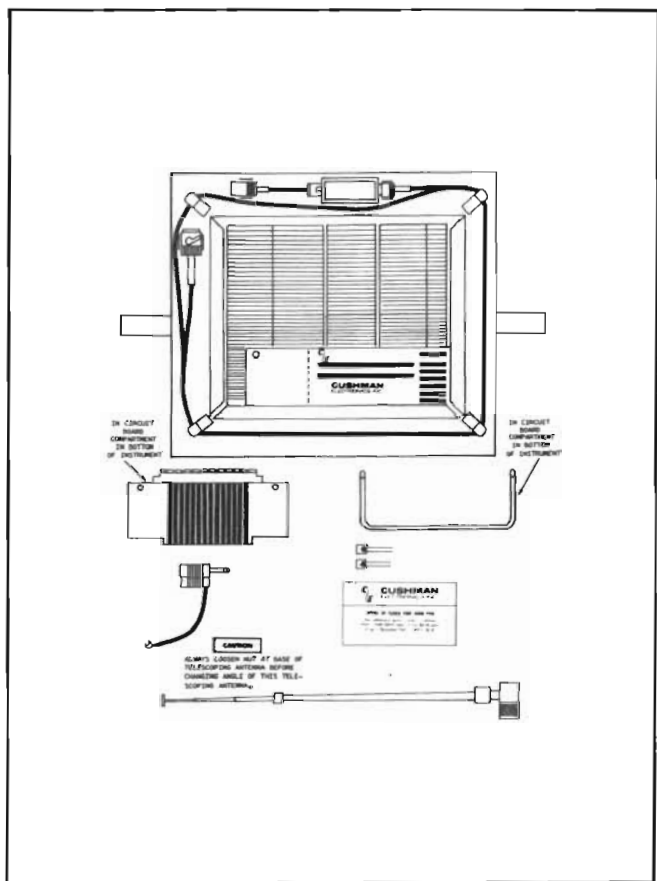

Figure 2-1. Auxiliary Items Furnished With CE-5
2.01 When unpacking the Model CE-5 Communications Monitor inspect the packing box and the instrument for signs of possible shipping damage and see if the auxiliary items, listed in Table 2-1 and shown in Figure 2-1, are present. Verify satisfactory performance as outlined in the Operating Instructions (Section 3). If the instrument is damaged or fails to operate properly, or if any of the auxiliary items are missing, file a claim with the transportation agency or, if insured separately, with the insurance company.